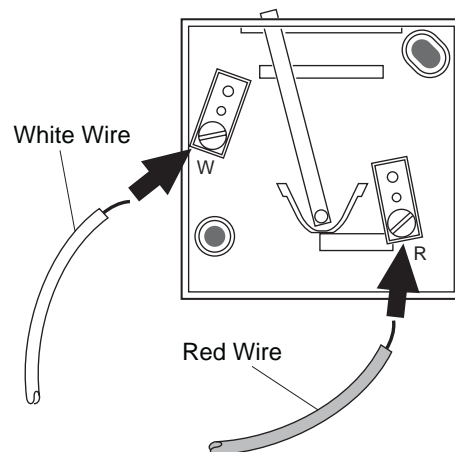

Figure 3 - Connecting Thermostat Wires to Thermostat
5. Connect thermostat wires to the two terminal screws on back of thermostat (see Figure 3). Connect red wire to "R" terminal. Connect white wire to "W" terminal.